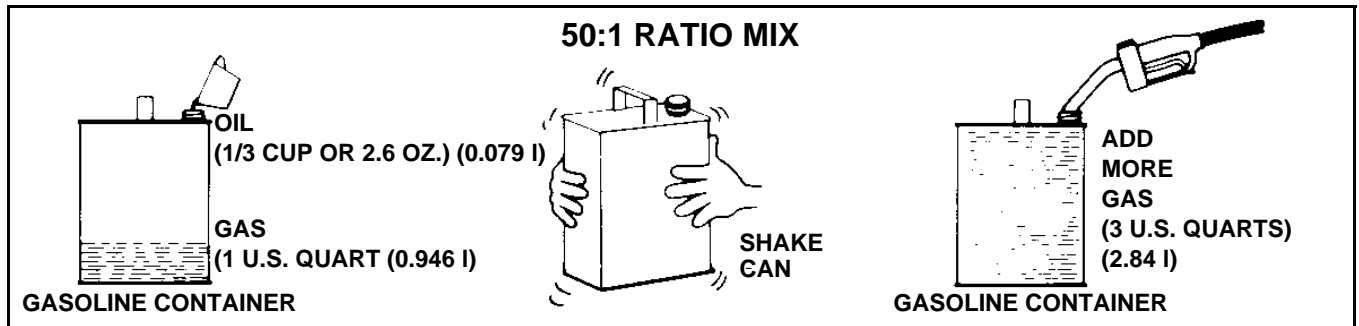

Figure 6
- If your snowthrower requires a 50:1 gas to oil ratio; pour 2.6 oz. of Toro 2-cycle oil into the gasoline container (Figure 6).